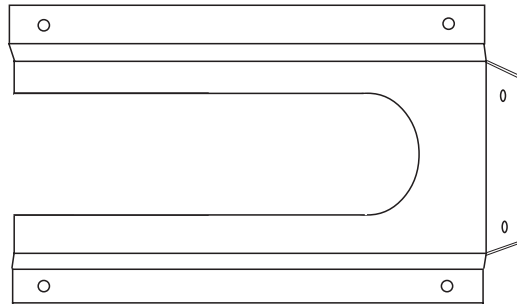
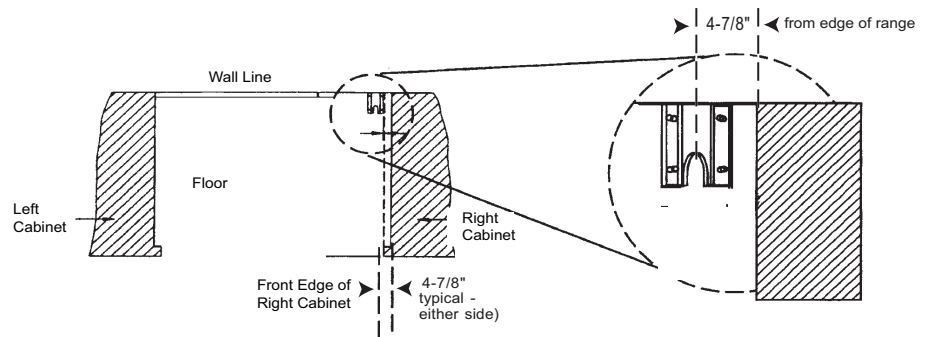

Figure 6: Mounting Anti-tip Bracket
Figure 7: Placement of Anti-tip Bracket (Top View)
For 30" and 36" Dual Fuel Ranges (Figure 6 and Figure 7)
1. Place bracket on floor in position shown in Figure 7 (Bracket may be used in either corner of the installation area).